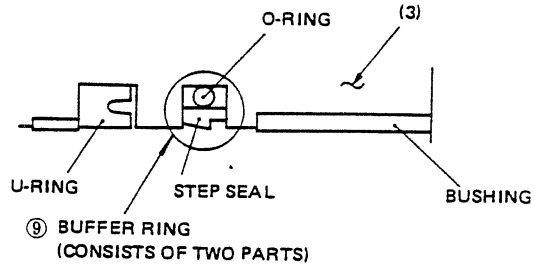

Fig. 5-30
- (2) Buffer ring (9) is installed in cylinder head (3) as shown in Fig. 5-30.